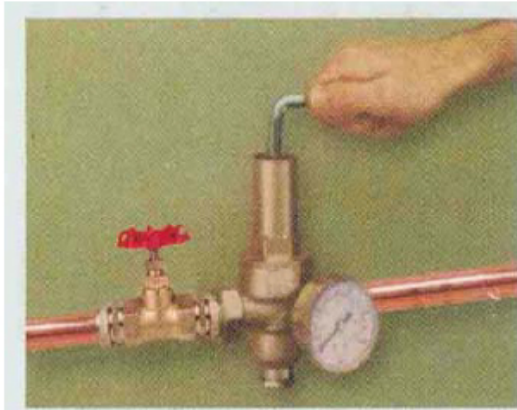

Figure 2
- 1) Close the inlet valve, open the tap lid, loosen the adjustment screw completely, open the valve bonnet (Figure 2)